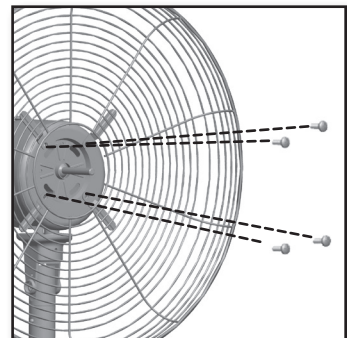

Figure 10
3. To attach the Back Grill to the Motor Housing partially install the four grill mounting screws. Tighten all four screws. Figure 10.